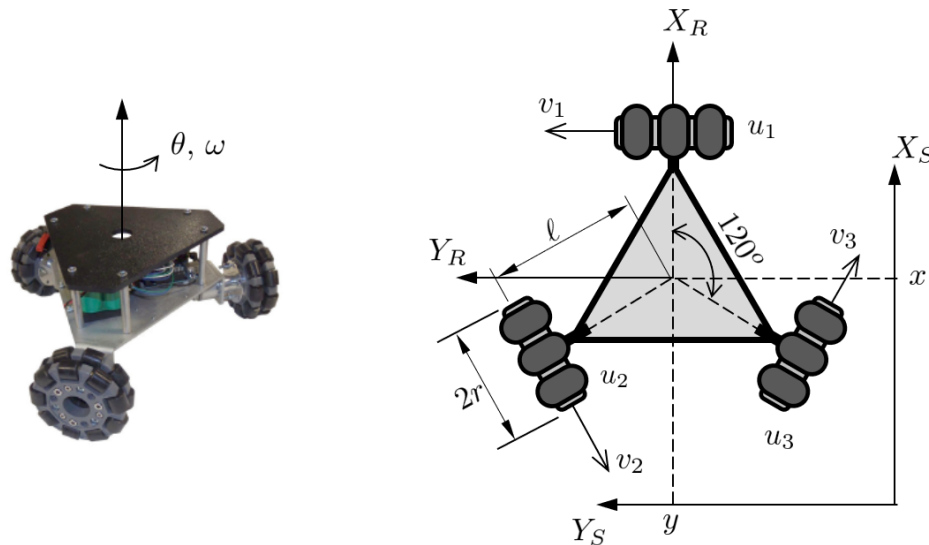

Figure 2: 3W omnidirectional robot
- (a) Derive the equation of motion (as we did for the 4W during the lectures) for the omnidirectional wheeled robot with three wheels shown in see Figure 2 [20 pts]